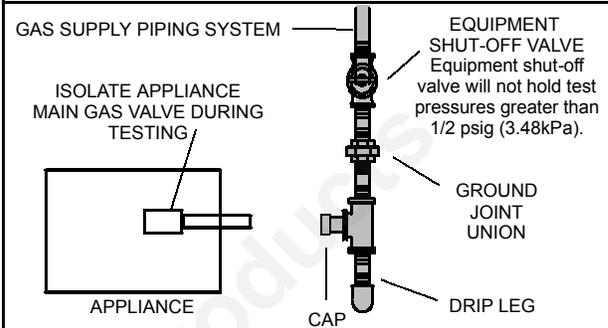

FIGURE 32
- 5 - In some localities, codes may require installation of an equipment shut-off valve (furnished) and union (furnished by installer) external to the unit. Union must be of the ground joint type. See figure 32.
The appliance and its appliance main gas valve must be disconnected from the gas supply piping system during any pressure testing of the gas supply system at test pressures in excess of 1/2 psig (3.48 kPa). See figure 32.